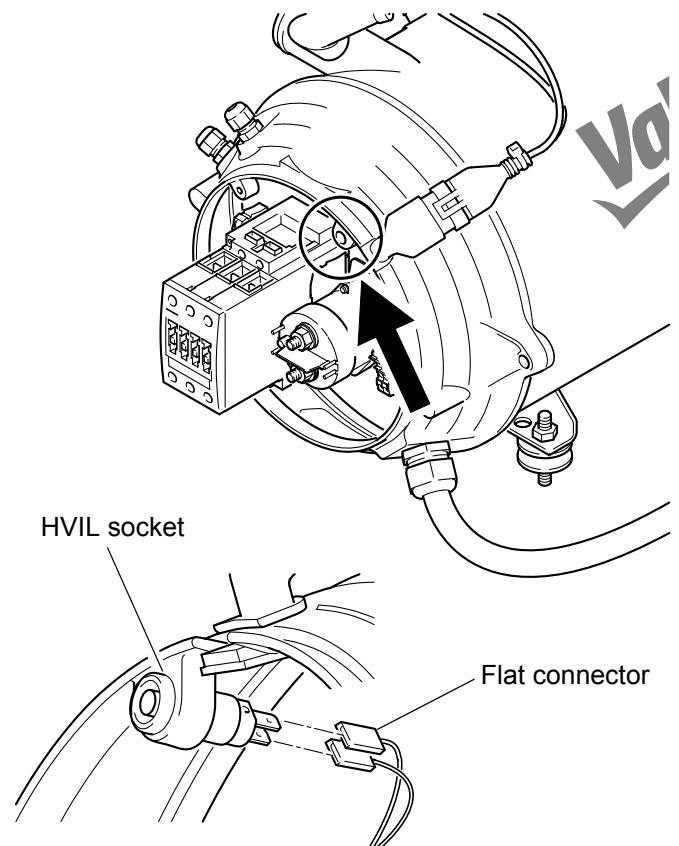

Fig. 808 HVIL Socket
- Screw the heating cartridge (20) or screw plug (21) into the heat exchanger (26).
- Tighten heating cartridge (20) or screw plug (21) as required.
- If necessary disconnect connectors from the HVIL socket (Fig. 808).
- If necessary reconnect connectors to the HVIL socket (Fig. 808).
socket (Fig. 808).
4. If necessary reconnect connectors to the HVIL socket (Fig. 808).